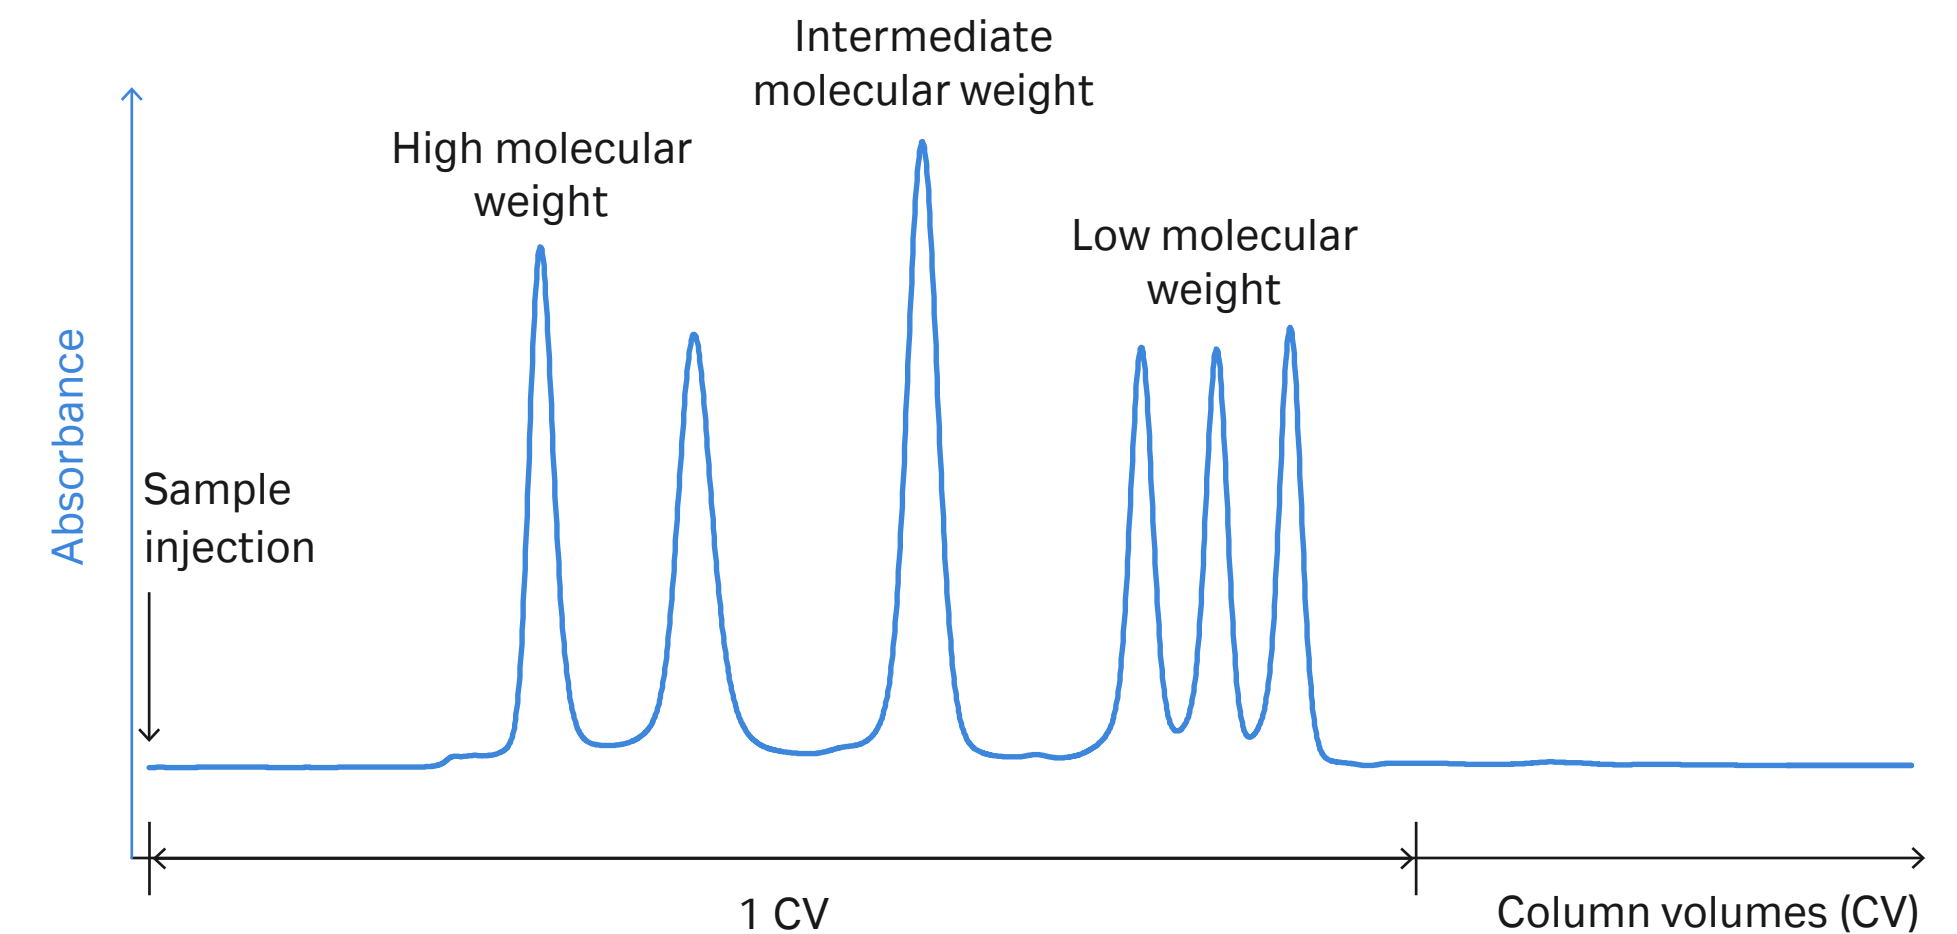

Fig 1.3. Typical high-resolution SEC separation.
1. Preparative size exclusion chromatography: a high-resolution size-based separation of biomolecules with fractionation. Preparative SEC is performed to isolate one or more components of a sample. Separated components can directly be transferred to a suitable buffer for assay or storage. Small sample volumes of 0.5% to 4% of the total column volume are applied at low flow rates using long columns, often 60 cm or longer. The particle size is commonly $> 12 \mu\text{m}$, providing low column back pressure. Resolution of preparative SEC varies from high to more moderate depending on the particle size. For optimal results, samples with few components such as those partly purified by other chromatography techniques are used. This makes preparative SEC well-suited for the final polishing step in a purification scheme; see handbook Strategies for Protein Purification. Figure 1.3 shows the chromatogram of a typical high-resolution separation. As the separation takes place in only 1 CV, it is essential to have a well packed column for good results in SEC. For convenience and optimal performance, prepacked SEC columns are recommended.
2. Analytical size exclusion chromatography: a high-resolution size-based separation without fractionation (Fig 1.3). Often, the analysis is connected to highly selective detectors such as mass spectrometers and photodiode arrays (DAD), as well as multiangle light scattering (MALS) or fluorescence detectors.